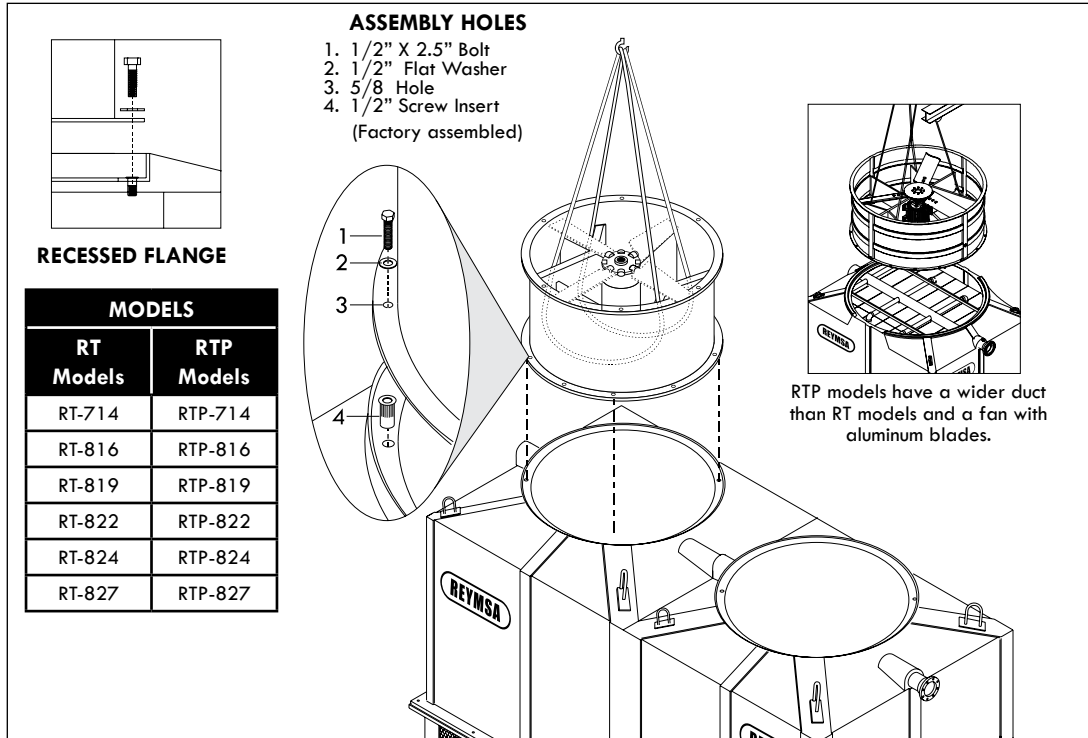

Figure A-21: Fan Duct assembly for a Two Fan Tower
- N. Then cradle/straddle the fan support with the straps (as shown in figure A-21) so you can lift the fan duct with a crane and assemble it.
- O. Identify each fan duct, they are labeled with a number on the inside of the lower edge. For a correct installation, this number must match the number on the distribution manifold of the corresponding body section. Now place fan duct 1 on the correspondent receiving flange on top of the Tower; make sure the bolt holes and the marks inside the fan duct and the receiving flange are aligned (Figure A-21 and A-22). Secure it with the stainless steel nut and bolt sets supplied by REYMSA.